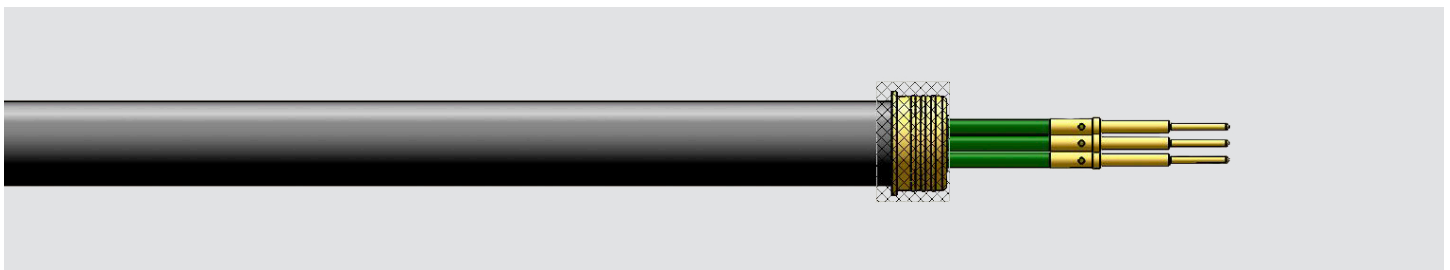

Figure 6
- Insert the conductor into crimp well, visually confirm seating through inspection hole on the contact. Then crimp the contact using recommended crimp tool or equivalent as shown in Figure 6 and 7.